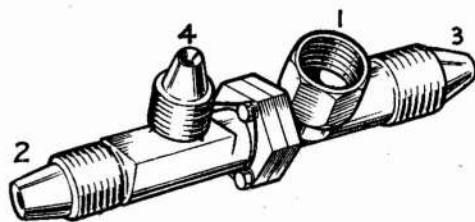

Fig. 2. Check valve, Ref. No. 6D/2264
- (2) Connect the air or oxygen supply to connection 2 (fig. 2), and slowly increase the pressure. Check that the valve closes at 10 lb/in².
- (3) Connect the oxygen leak tester to connection 1. Check that the leakage rate does not exceed 2.5 cc/min. (3 bubbles in 10 seconds).
- (4) Gradually increase the pressure to 225 lb/in². Check that there is no leakage from connection 1. Reduce the gas pressure to zero.
- (5) Disconnect the oxygen leak tester and disconnect the supply.
- (6) Remove the blanks from connections 3 and 4.
- (7) Place the valve in the drying cabinet at a temperature of 70°C for one hour.
- (8) After drying out the valve, fit the transit blanks to all connections.